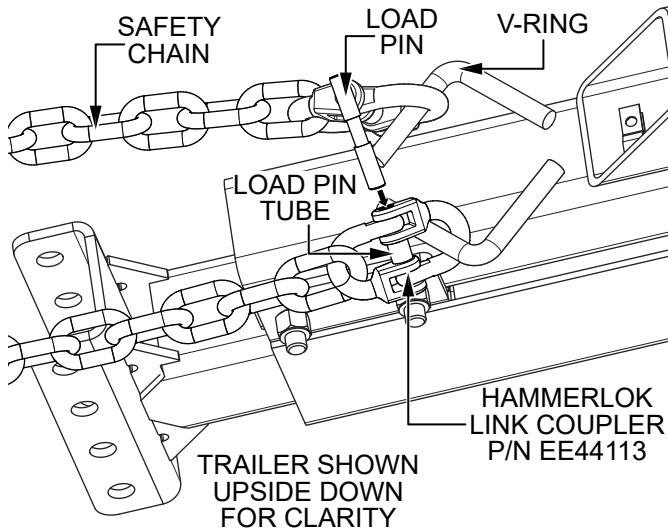

**Figure 4. Remove and Discard Clamp Plates and Hardware**
1. Remove and discard the bolts, nuts and washers (Figure 4) securing the clamp plates to the A-frame.
2. Remove the safety chains from the clamp plates (Figure 4) and discard the clamp plates.